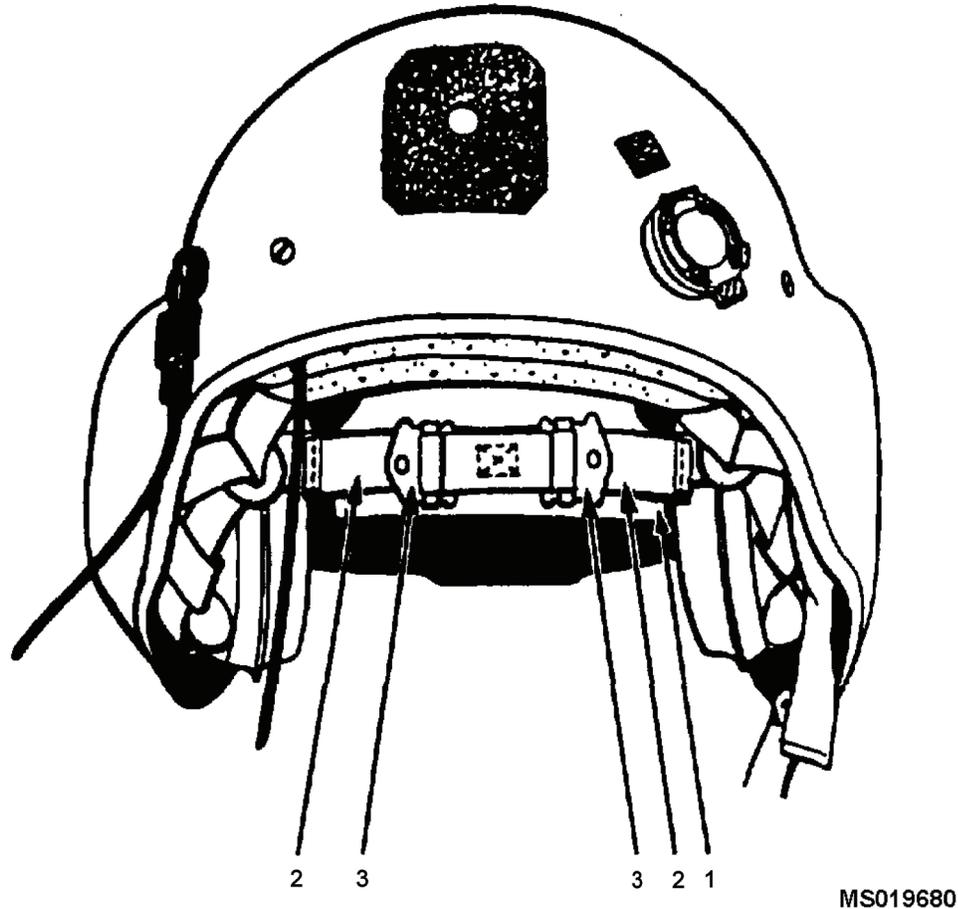

Figure 2. Nape Strap Adjustment Mechanisms.
5. Adjust Nape Strap Figure 2 .